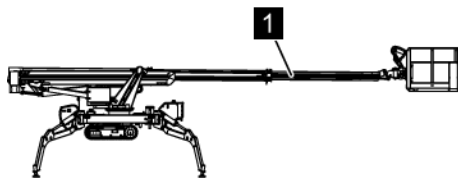

Fig. 227: Telescoping out the upper boom section
7. ➤ Telescope out the upper boom section (Fig. 227/1) completely (⚠ Chapter 6.15 'Service mode' on page 146).
13. ➤ Telescope in the upper boom section (Fig. 227/1) completely (⚠ Chapter 6.15 'Service mode' on page 146).